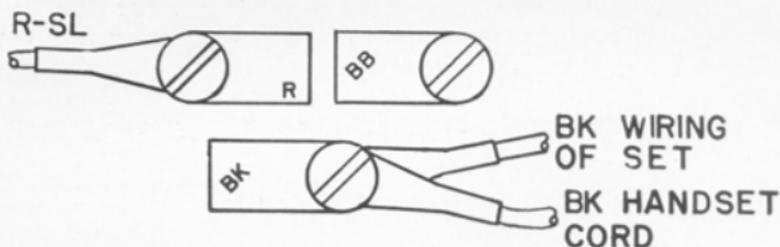

Fig. 6—Position of Cords on Dial
10.01 When 6-type dials are placed on H- and J-type mountings (300 series and 401 through 412 telephone sets), proper cording procedures must be followed in order to avoid interference with the ringer clapper rod by spade tips and wiring to the dial. Connect the red-slate, and black wires to dial terminals as shown in Fig. 6. Position the open side of spade shank, where wire is clamped, toward the dial and bend to give maximum clearance from the ringer. Make certain they do not touch any other terminals or metal portions of the set.